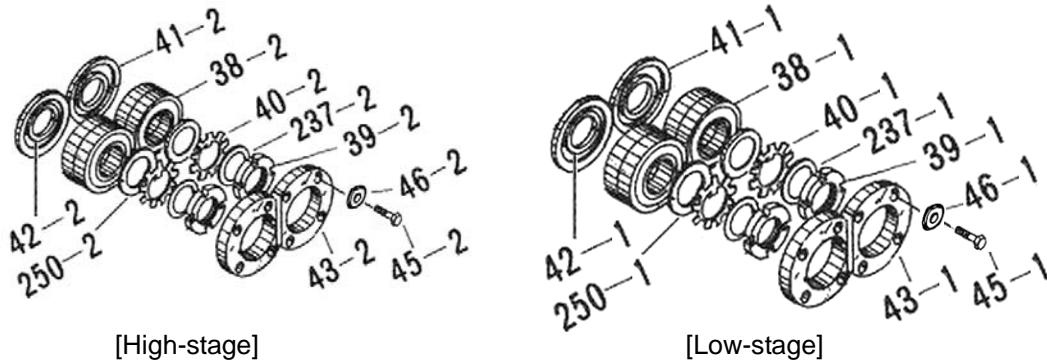

Figure 5-10 Thrust Bearing Block
a) The procedure for assembling this block is described in Figure 5-10. The important points are explained below.
- a) Push the rotor to the discharge side while the thrust bearing inner race is secured to the rotor shaft. Push the rotor from the suction side to the discharge side by using a jig (Teflon). Alternatively, by using a chamfered part of the lock nut, pull out the rotor with the edge of a flat blade screwdriver as shown in Figure 5-10.